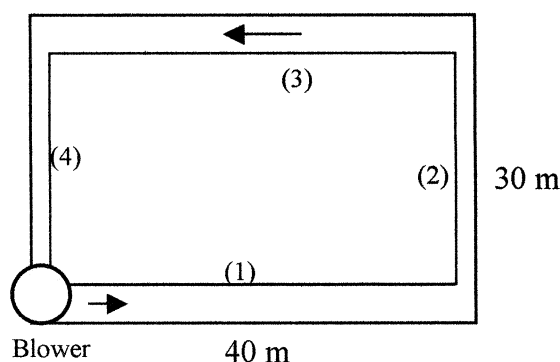

Fig. P6.117
6.117 A blower delivers air at $3000 \text{ m}^3/\text{h}$ to the duct circuit in Fig. P6.117. Each duct is commercial steel and of square cross-section, with side lengths $a_1 = a_3 = 20 \text{ cm}$ and $a_2 = a_4 = 12 \text{ cm}$. Assuming sea-level air conditions, estimate the power required if the blower has an efficiency of 75%. Neglect minor losses.